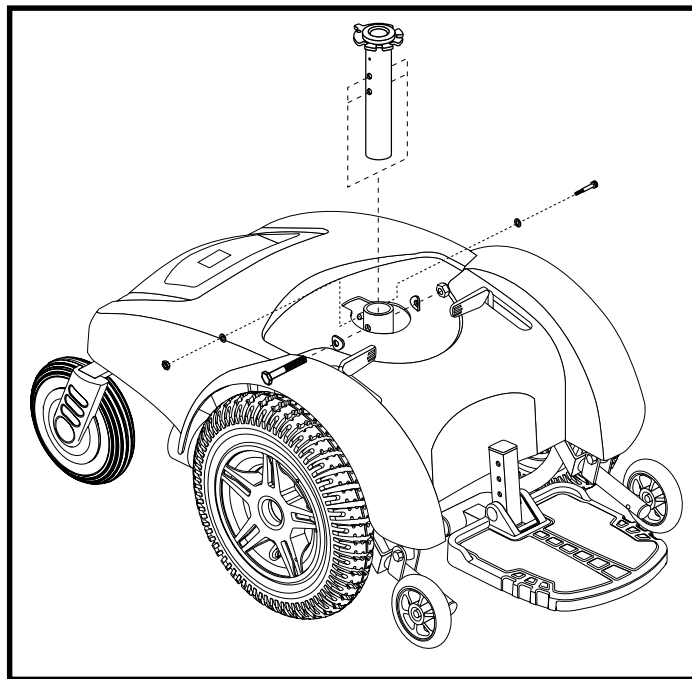

Figure 12. Seat Height Adjustment
6. Remove the hardware from the seat tower. See figure 12.